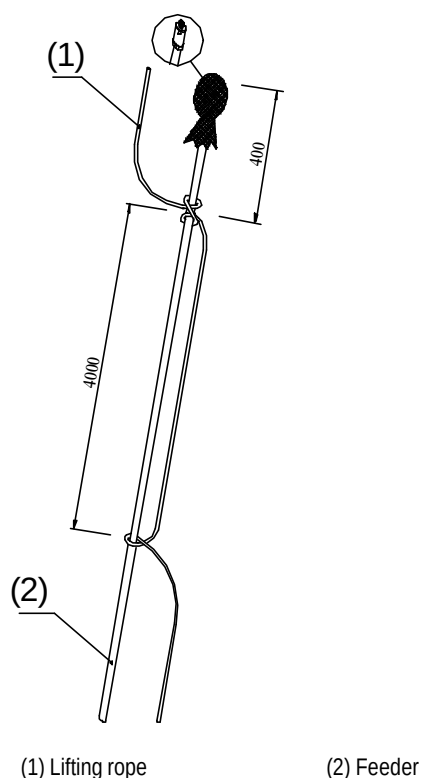

Figure 3-34 Protection of feeder connector
- 2) Knot the lifting rope at the point about 0.4m away from the feeder end and tie another knot at the point about 4.4m away from the feeder end to prepare for feeder hoisting, as shown in Figure 3-34.